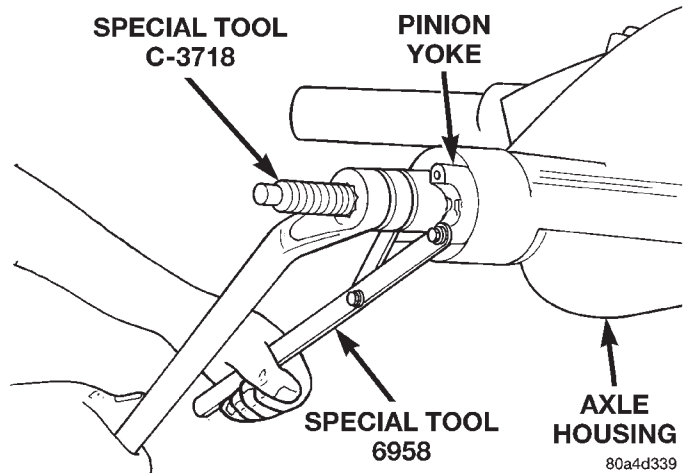

Fig. 56 Pinion Yoke Installation
- (8) Install yoke with Installer C-3718 and holder 6958 (Fig. 56).
- (9) Install the yoke washer and a new nut on the pinion gear. Tighten the nut to 298 N·m (220 ft. lbs.) minimum. **Do not over-tighten.** Maximum torque is 380 N·m (280 ft. lbs.).